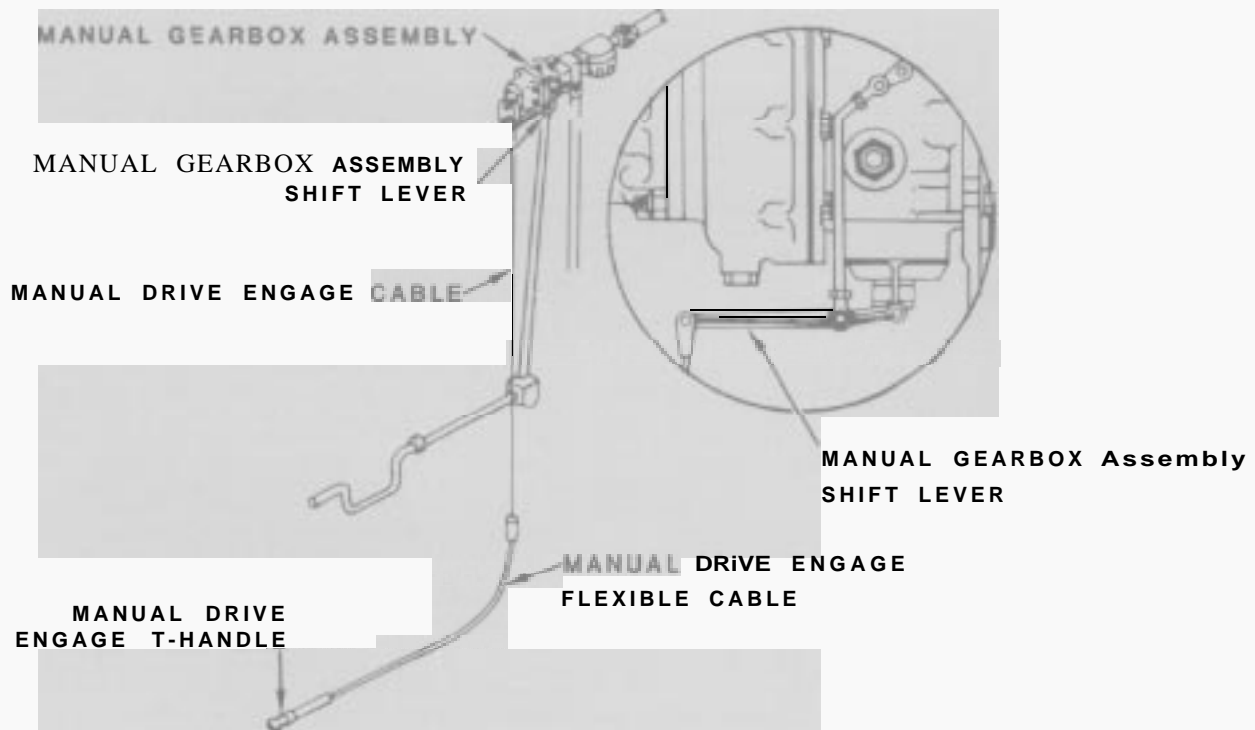

Figure 5. MLG manual extension system components.
1. Carefully disconnect the T-handle cable from the manual gearbox assembly shift lever (Figure 5).